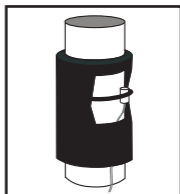

Figure 6 - Mounted Sensor
- The sensor can be strapped directly to the pipe using the cable tie provided. Insulation should be placed around the sensor to reduce the effect of air currents on the sensor measurement (Fig. 6).